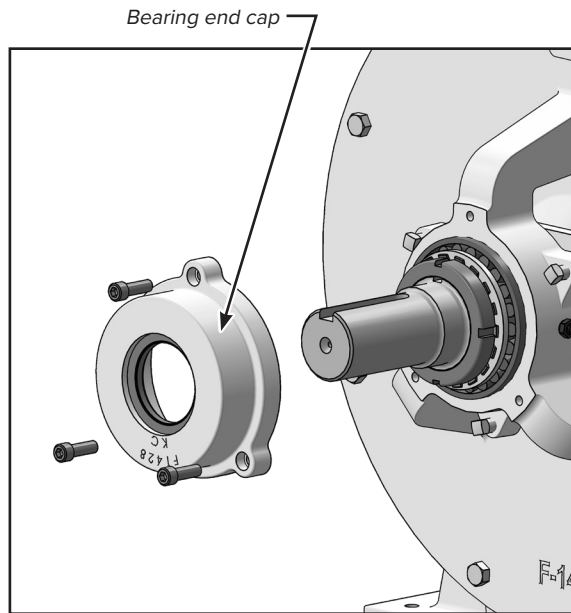

FIGURE 10
5. Remove bearing endcaps from bearing supports as shown (figure 10). **Take care not to damage lip seal in the bearing end cap.**
9. Remove bearing endcaps from bearing supports as shown (figure 10). **Take care not to damage lip seal in the bearing end cap.**